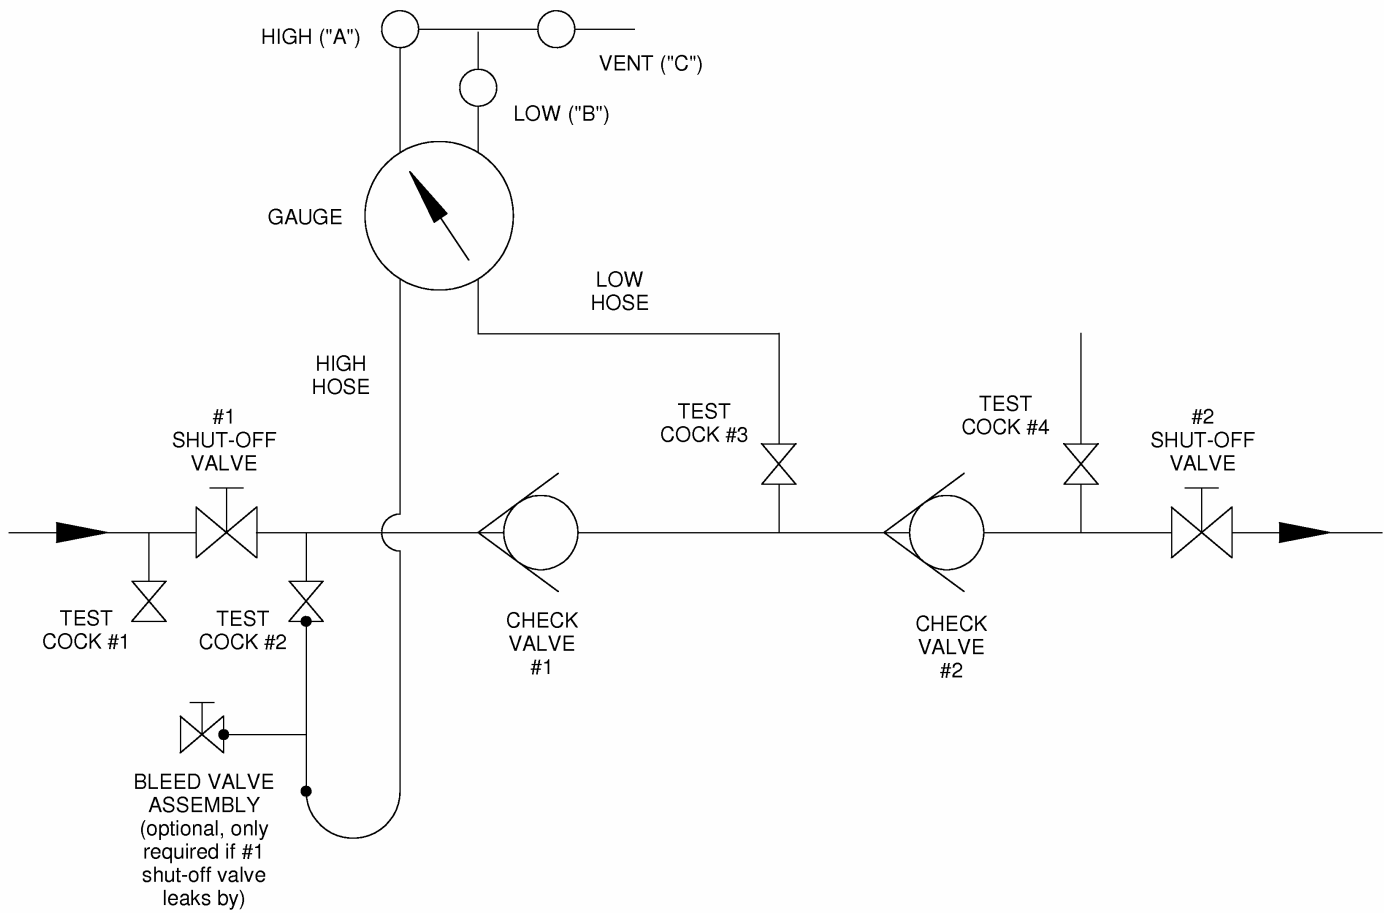

Figure 9
NOTE: This is a three-valve test kit procedure. Your local water purveyor should be consulted for acceptable test procedures. This procedure is to be used on a stand-alone double check valve (DC), the mainline DC of a double check detector, and/or the bypass DC of a standard (Type 1) double check detector. See Figure 9 for a schematic of the test setup.